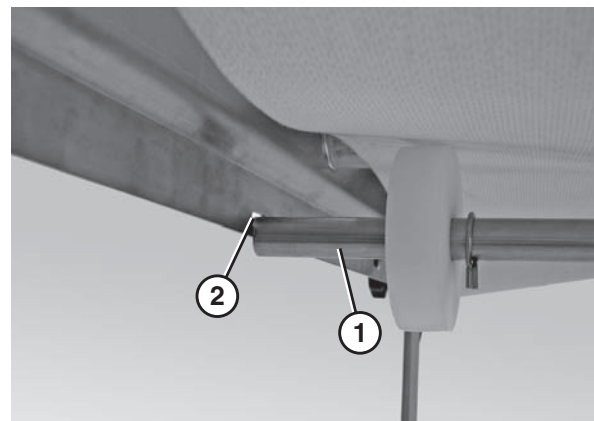

Figure 25
2. Push up on the return shaft (Figure 25, item 1) and slide the notched end of the shaft through the small slot (Figure 25, item 2) on the opposite side of the frame.